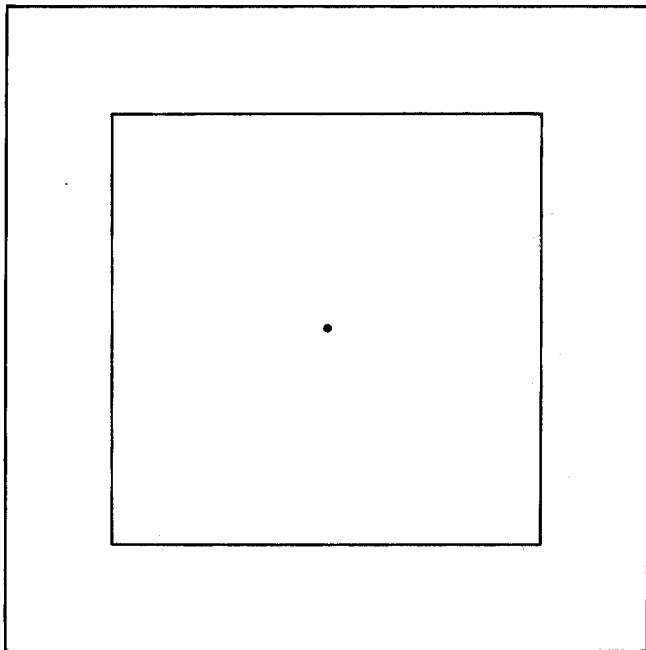

FIGURE 3-22. FUNCTIONAL CHECK
- c. Compare the plot obtained with Figure 3-22. The perimeter of the rectangle plotted should be located within each quadrant as indicated. Program should end with the pen up, positioned in the center as was set in paragraph 3-52. IMPROPER DATA light should be on.